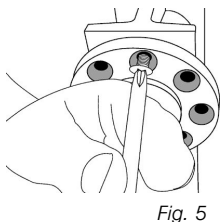

Fig. 5
1. Unscrew and remove the adjustment plate screws (Fig. 5).